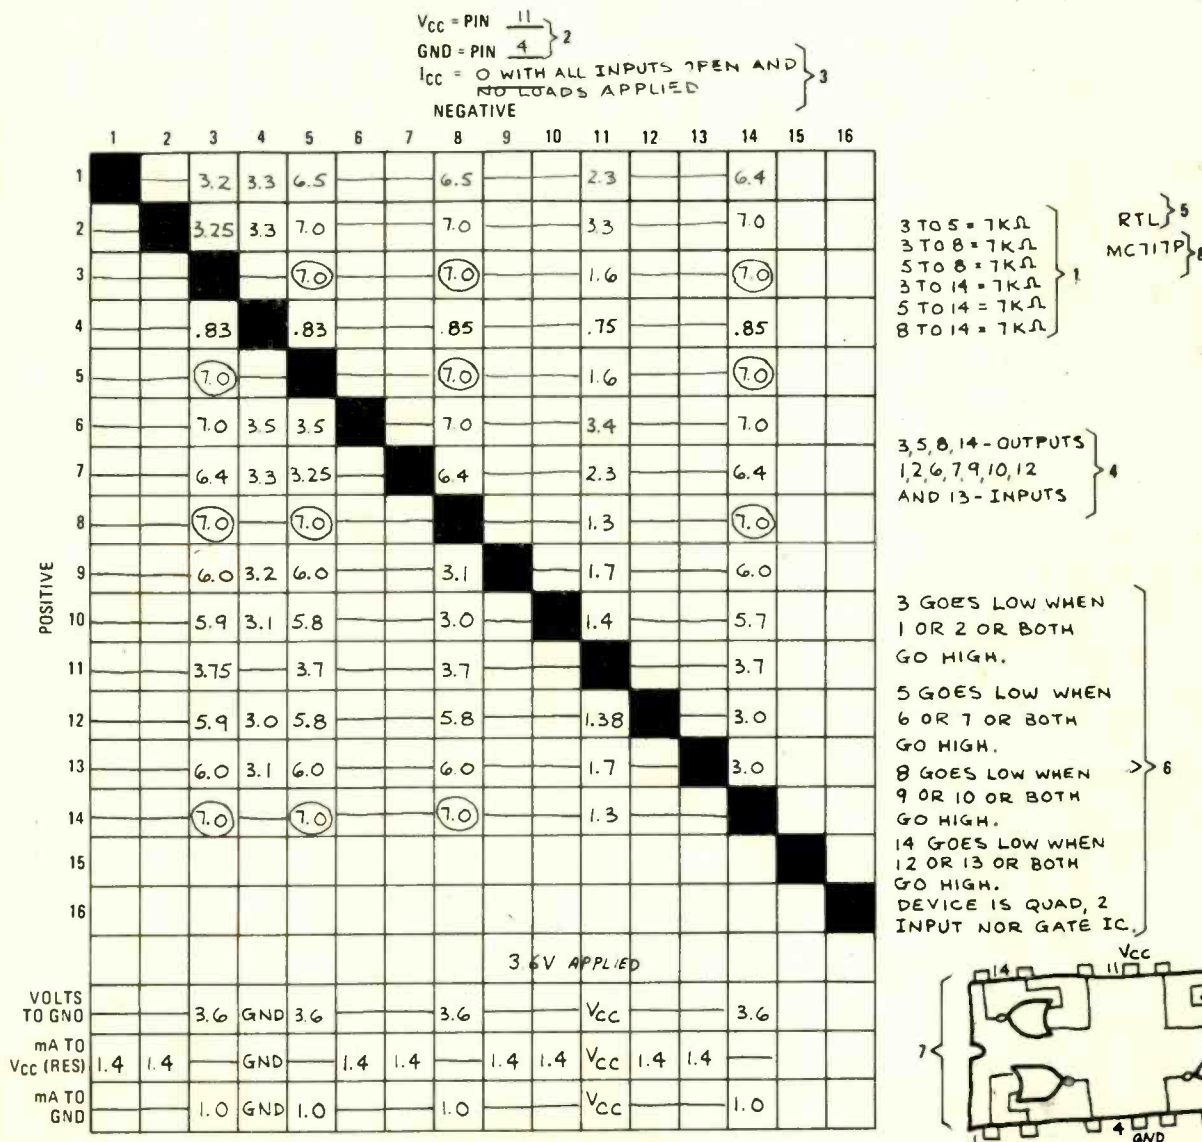

FIG. 2—COMPLETED SIGNATURE CHART for the unknown IC. It turned out to be an quad, 2-input NOR gate.
Scan across Row 4 for the lowest uncircled reading—in this case it is the 750-ohms reading in Column 11. That tells us that pin 11 is the V_{cc} terminal of the IC. Record those numbers in the place provided at the right of the chart—Step 2, Fig. 2.
A voltage less than 0.2, but greater than zero, usually indicates logic outputs in the low state. None of those appear in Fig. 2.
Now is the time to remove and reapply power to the IC. Do that several times, each time comparing the voltage at each suspected output to its original recorded value. Often a flip-flop will reveal itself by changing the state of one or more of its outputs. A simple gate will never change state in response to that little trick. The IC in Fig. 2 did not change state so I assumed it was not a flip-flop.
Voltages from about 1.8 down to 0.8 usually indicate TTL or DTL inputs. The fact that there are no such voltages in the "volts-to-ground" row of Fig. 2 was certainly a surprise to me, but it did lead to a pretty solid conclusion: If the IC is not defective, then it is not TTL or DTL.
Input currents for RTL, DTL and TTL fall between 0.8 mA and 2.0 mA. In Fig. 2 all the probable inputs draw 1.4 mA referenced to V_{CC} and nothing referenced to ground. That verifies that they are inputs and shows they are active (draw current) when the input is pulled high. RTL is active-high. DTL and TTL are active-low. Since there appear to be twice as many inputs as outputs, the chart suggests that our IC is a quad gate of some sort. It is reasonable to conclude that pins 1, 2, 6, 7, 9, 10, 12 and 13 are inputs.
Step 5: The symmetrical pattern of resistances in the signature and the strong evidence for four independent outputs with logic-level voltages pretty much rules out any linear IC. Resistive pull-ups could be DTL, but DTL inputs are active-low and our IC is active-high. After reviewing all the evidence I felt there was absolutely no doubt that this device was RTL. That conclusion was recorded in Fig. 2.
The relationships between the inputs and outputs and the conclusion as to the type of device I was dealing with are listed in Fig. 2 as step 6.